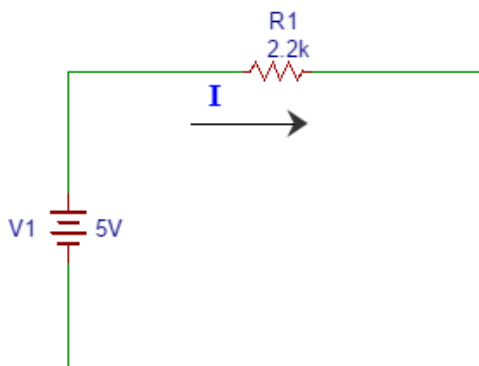
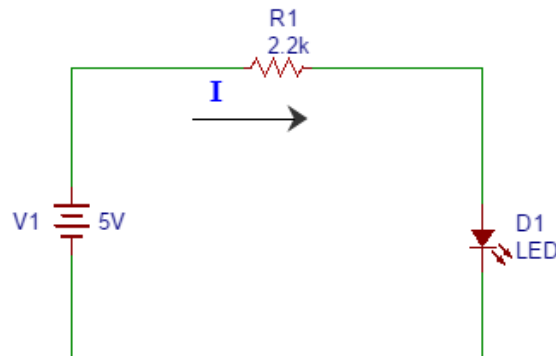
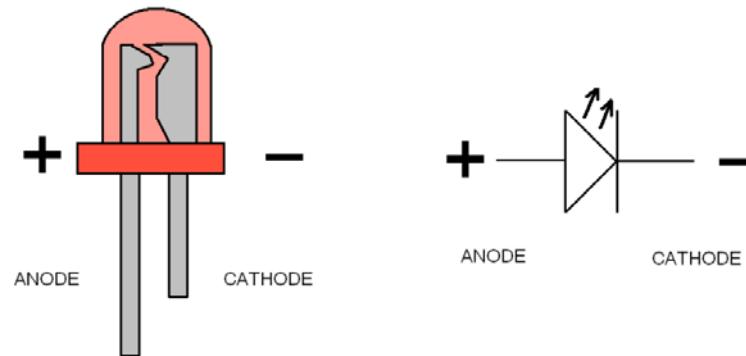
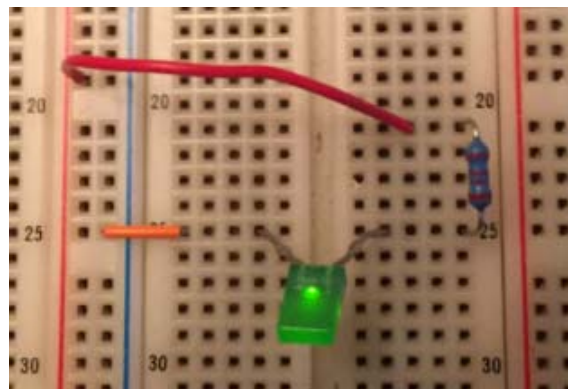

Figure 1.1. Simple electric circuit with a power supply and 2.2K Ω resistor.
Figure 1.2. Simple electric circuit with resistor and LED.
Figure 1.3. LED terminals. The anode (+) terminal has a longer lead and the cathode (-) terminal has a shorter lead.
Figure 1.4. Example of how to build the circuit from figure 1.2 on your breadboard.
Figure 1.1 shows a simple electric circuit with a power source and a resistor connected together using wires. The power source provides electric energy to the load, which in this case is the resistor. The power source could be a battery or a power supply such as the programmable DC (direct current) adjustable
In the circuit in Figure 1.1 current (**I**) will flow through the resistor. To determine how much current will flow, we can use Ohm's Law. For this circuit, determine the value of **I** for three different values of **R** shown in Table 1.1. The first computation has been completed for you. Draw the circuit in your lab journal and compute the value of **I** for the other two resistor values in your lab journal (or on a piece of paper that you'll paste in your lab journal later).
1.3* (* = lab work) We could build the circuit in Figure 1.1 and confirm your computation by measuring the current using a multimeter (and you will do this type of measurement in your EE 2049 lab). For this course, we just want to gain a basic understanding of electric circuits before delving into digital logic circuits. Rather than measure the current, we want to observe the effect of varying the resistance on another load, namely an LED (light emitting diode). A diode is an electrical component built from semiconductor material that only allows current to flow through in one direction. In an LED, when the
Figure 1.2 shows a circuit diagram with a resistor and LED. Resistors are used to control the amount of current flowing through the LED. If you connect up your circuit without the resistor, the LED will be over-driven, it will light brightly for a while and then burn out.
For the circuit in Figure 1.2, compute the current flowing through the circuit. In this case you have to take into account the voltage drop across the LED. Assuming a 2.1V drop across the LED, the voltage across the resistor is $V_R = 5V - 2.1V = 2.9V$. In Figure 1.1, the voltage across the resistor was equal to the supply voltage (ignoring any voltage drops due to the resistance in the wires). Thus, for the circuit in Figure 1.1 $V_R = 5V$.
Build the circuit shown in Figure 1.2 on the breadboard. While the orientation of a resistor in a circuit does not matter (current can flow in either direction through a resistor), current can only flow in one direction in an LED, from the anode (positive terminal) to the cathode (negative terminal). Figure 1.3 shows how to determine which is the anode (longer lead/wire) and which is the cathode (shorter lead). Figure 1.4 shows how to connect the components. Note that on your breadboard the five holes along one row are internally connected. Also note that there are two buses running vertically along each section of the board. The red bus has been wired to connect to the positive terminal of breadboard which you will connect to the positive terminal of the power supply (5V) and the blue bus has been wired to connect to the negative terminal of the breadboard which you will connect to the ground terminal of the power supply (0V). First wire your circuit and then connect the black lead from the negative (ground) terminal of the power supply to the negative terminal plug on your breadboard. Likewise, connect the positive terminal of the power supply to the positive terminal plug on your breadboard. Turn on the power supply and adjust the supply voltage to 5V.